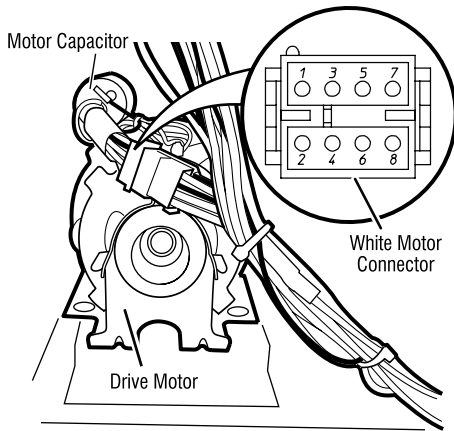

Figure 5. Disconnect white motor connector
5. Disconnect the white motor connector from the drive motor. See Figure 5.
6. Check the resistance value of the motor capacitor. See Figure 5 for location.
7. Check the resistance value of the motor's Main winding coil by contacting points 7 and 8 of the white motor connector, as shown in Figure 5.